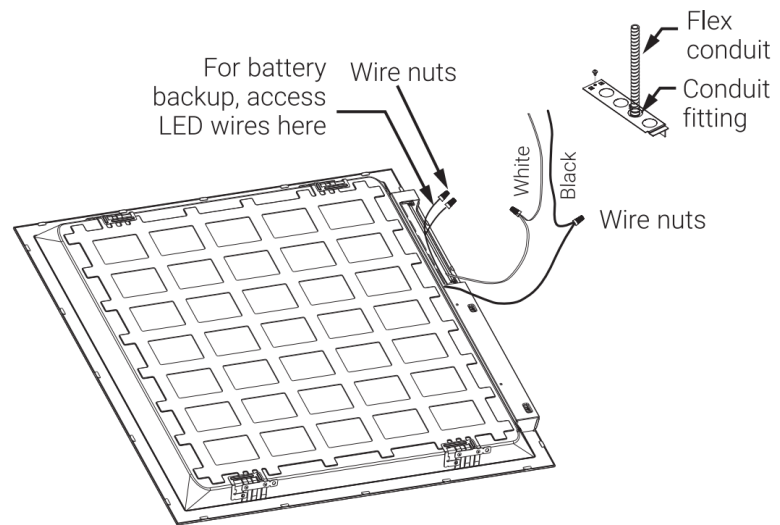

Figure 5
Use the wire nuts to attach the ground wire to the ground supply wire, the black (line) wire to the black supply wire, and the White (neutral) wire to the White supply wire (Figure 5).
*This fixture is compatible with battery backup systems including the FPEMLED10RM. If using a compatible field-installed battery backup system, remove driver cover pplate to acces LED load wires and follow battery backup wiring instructions (Figure 5). Ensure driver cover plate is reinstalled after wiring.*